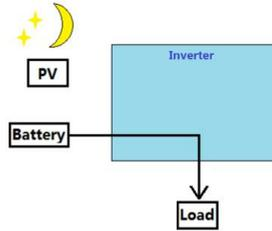

Figure 1-10
3. If the PV is insufficient, the battery powers the load (Figure 1-10).